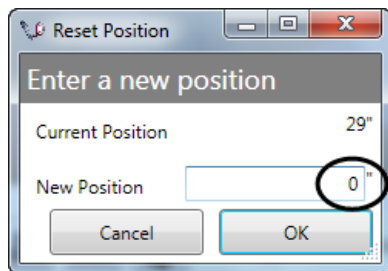

Figure 76
3. In the **New Position** field, enter the *correct Position* value and click **OK** (Figure 76).